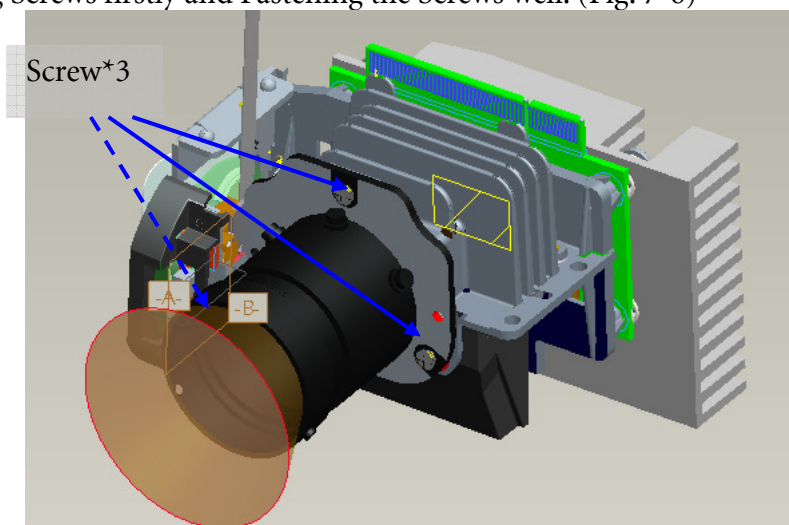

Fig.7-6
7.7 Assemble “PL Lens” and lock with screws well (Fig. 7-6).
- ii. Pre-fastening Screws firstly and Fastening the Screws well. (Fig. 7-6)